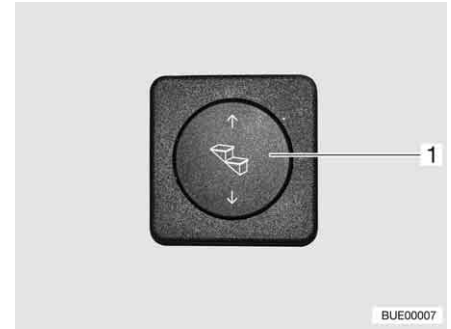

Fig. 14 Operating button for entrance step
- Press the rocker button (Fig. 14,1) down and hold it pressed (at least 3 seconds) until the entrance step has extended completely.
- Press the rocker button (Fig. 14,1) up until the entrance step has retracted completely.